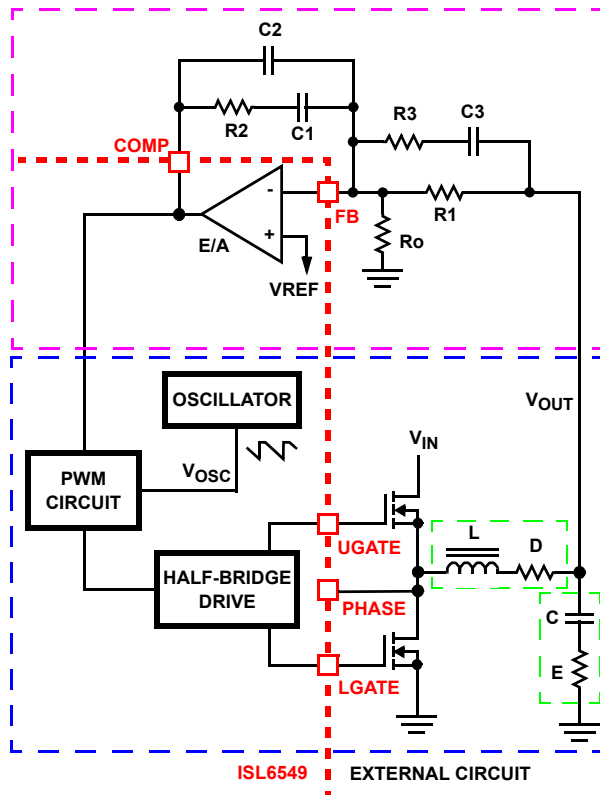

FIGURE 10. VOLTAGE-MODE BUCK CONVERTER COMPENSATION DESIGN
Figure 10 highlights the voltage-mode control loop for a synchronous-rectified buck converter, applicable to the ISL6549 circuit. The output voltage (V_{OUT}) is regulated to the reference voltage, V_{REF} . The error amplifier output (COMP pin voltage) is compared with the oscillator (OSC) modified saw-tooth wave to provide a pulse-width modulated wave with an amplitude of V_{IN} at the PHASE node. The PWM wave is smoothed by the output filter (L and C). The output filter capacitor bank's equivalent series resistance is represented by the series resistor E.
The compensation network consists of the error amplifier (internal to the ISL6549) and the external R1-R3, C1-C3 components. The goal of the compensation network is to provide a closed loop transfer function with high 0dB crossing frequency (F_0 ; typically 0.1 to 0.3 of F_{SW}) and adequate phase margin (better than 45 degrees). Phase margin is the difference between the closed loop phase at F_{0dB} and 180°. The equations that follow relate the compensation network's poles, zeros and gain to the components (R1, R2, R3, C1, C2, and C3) in Figure 10.
1. Select a value for R1 (1k Ω to 5k Ω , typically). Calculate value for R2 for desired converter bandwidth (F_0). If setting the output voltage via an offset resistor connected to the FB pin, Ro in Figure 10, the design procedure can be followed as presented.